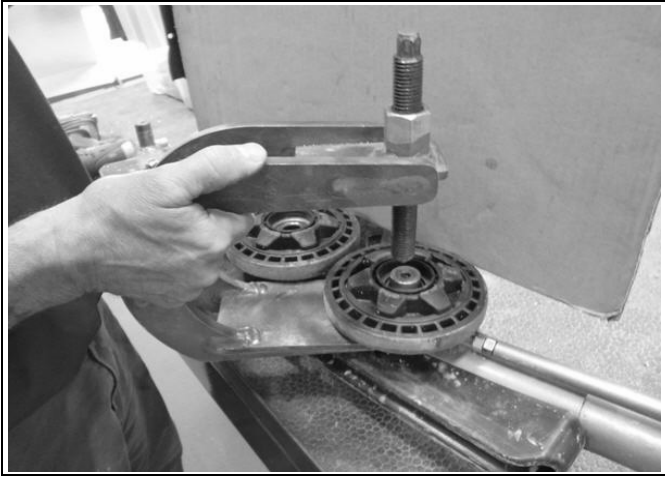

Figure 20
- Place the extractor under the wheel as shown on Figure 20